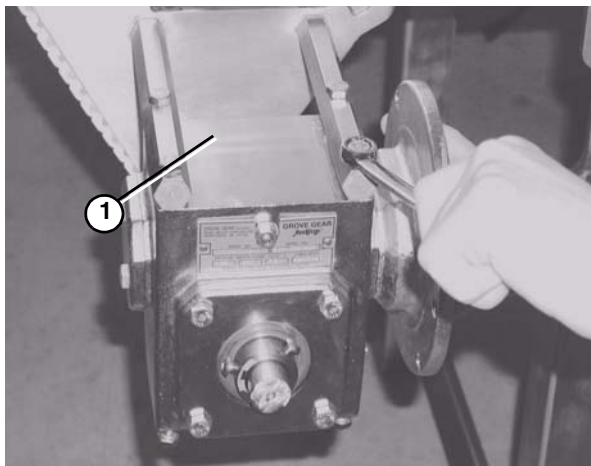

Figure 59
4. Unbolt the gear head and slide it off the drive spindle (Figure 59).